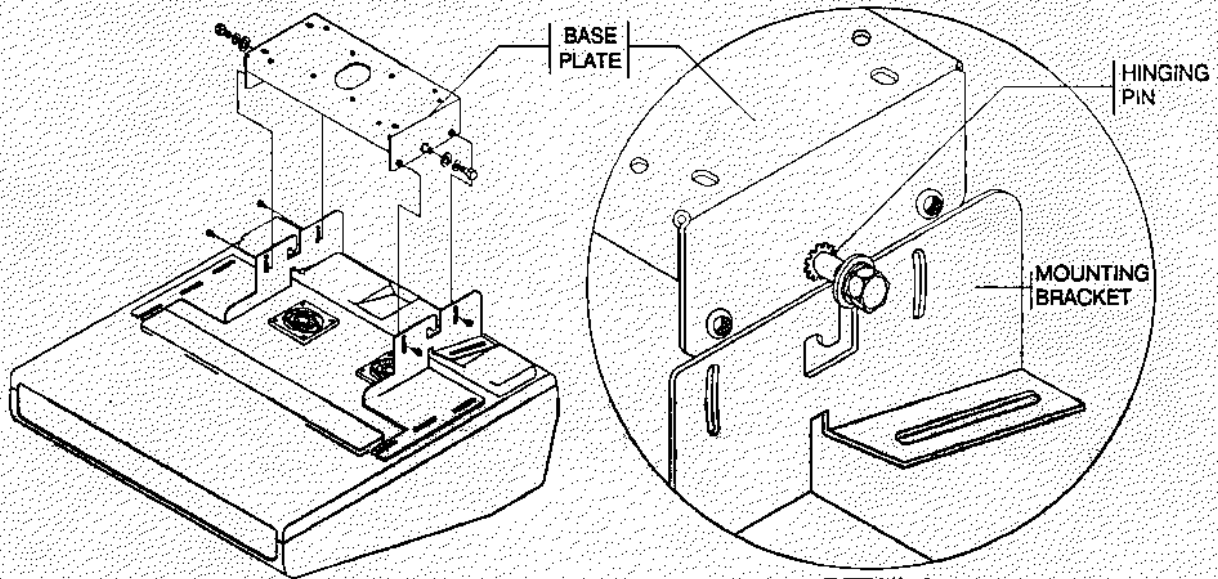

FIGURE C-4. AND DETAIL A.
- STEP 3: Once the base plate has been securely attached to the ceiling of adjustable suspension adapter, the projector is lifted and hooked on the hinging pins as shown in Figure C-4 and detail A.